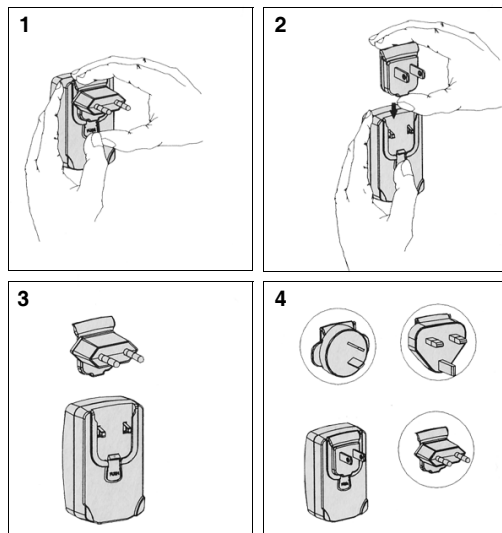

Fig. 1 Fitting the mains plug adapter
- See Fig. 1 and follow the instructions which are shown on the packaging of the mains plug adapter.